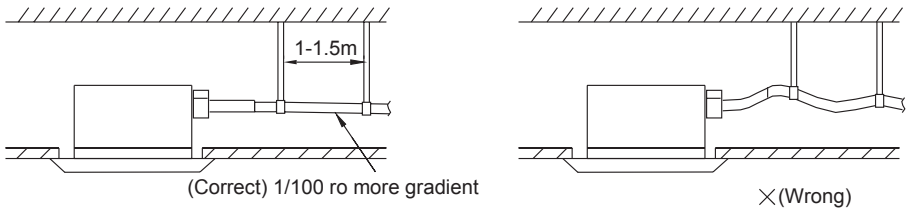

Fig.9
- (1) The diameter of the drainage pipe should be equal or bigger than to the diameter of the connecting pipe tube. The outer diameter of pipe size is 35mm (FP-(85~200)XD(S,M)/B-T).
- (2) Keep the drainage pipe short and sloping downwards at a gradient of at least 1/100 to prevent air pockets from forming(as Fig.9).
- (3) If the drainage hose cannot be sufficiently set on a slope, add a drainage raising pipe.
- (4) To keep the drainage hose from sagging, keep space between hanging hooks at 1~1.5m(as Fig.9).